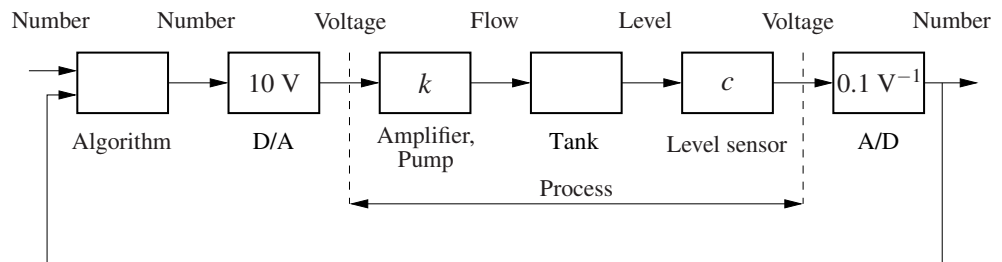

Figure 2 Block diagram for the process with unit converters.
Figure 2 shows a block diagram of the process and controller with all involved converters. It is not obvious where the border between process and controller shall be drawn. It is, however, according to custom to choose the border so that the process inputs and outputs are of same units. With this convention the transfer function of the controller becomes unit-less. In our case the process in- and outputs will be of the units Volt (V). However, note that the control algorithm in the computer works with numbers (i.e. unit-less) because the A/D- and D/A converters contain a conversion factor of 10 V.